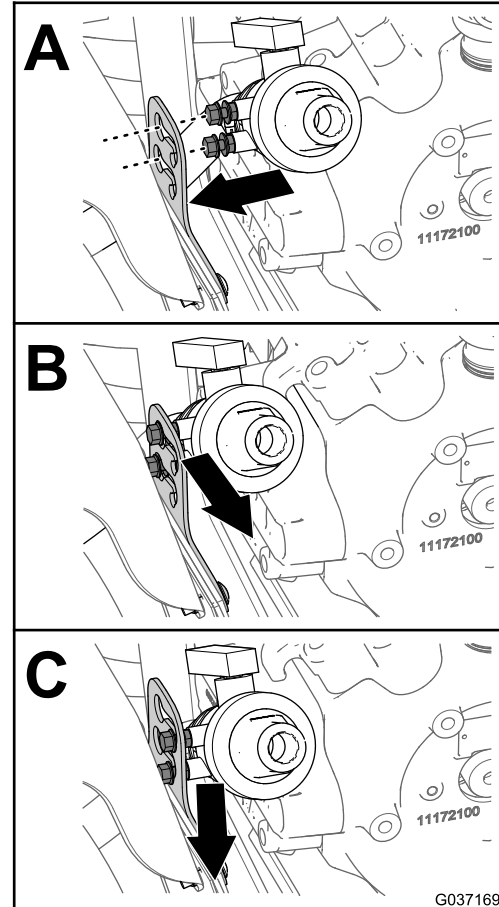

Figure 16
4. Align the locknuts of the drain valve with the holes of the keyhole slots in the drain-valve bracket (A of Figure 16).
5. Move the drain valve outboard and down to secure the valve to the bracket (B and C of Figure 16).